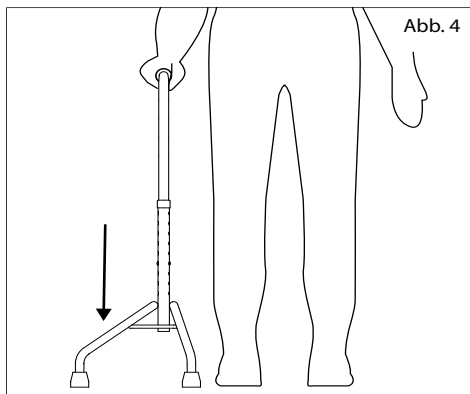

Abb. 4
2. The two furthest extending feet must point away from your body (Fig. 4) and the open end of the hand grip must point backwards (see reference diagram on page 9).
1. Always hold the quad cane with the correct hand. You can tell whether you have got it right by checking that the two furthest extending feet are pointing away from your body (Fig. 4).